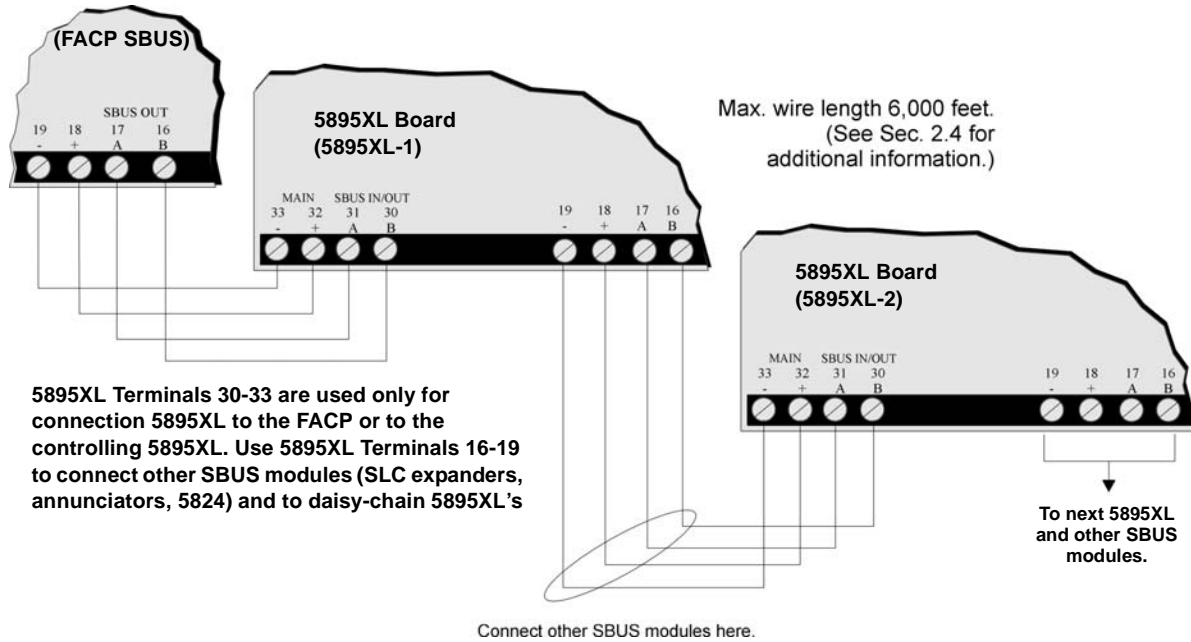

Figure 3-3 Class B 5895XL Connection to FACP
1. Connect the 5895XL to the appropriate SBUS. The 5895XL can be connected directly to the FACP or can be daisy-chained to another 5895XL. Figure 3-3 and Figure 3-4 show both connections.